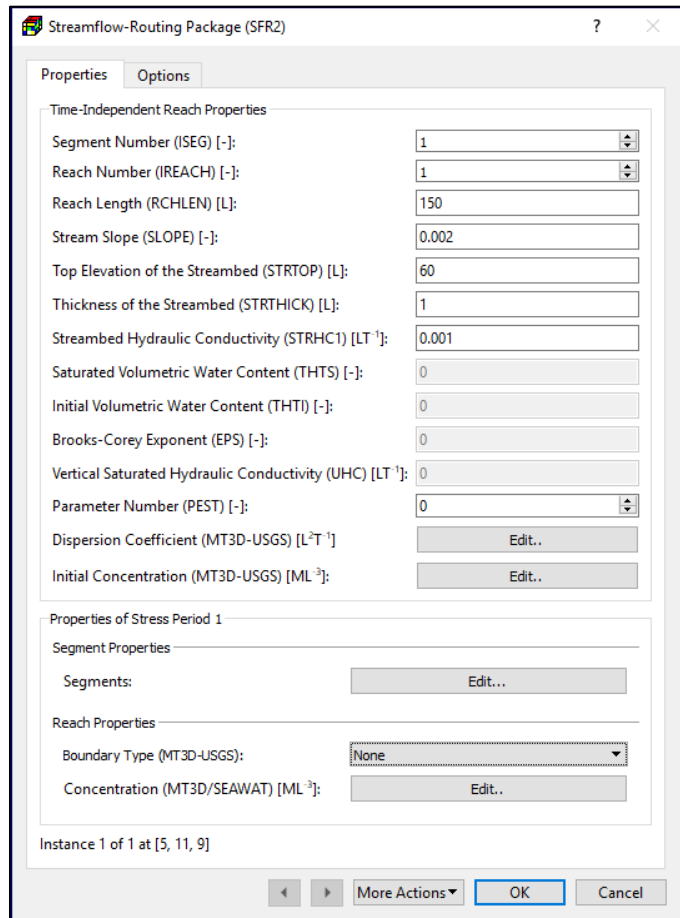

Figure 74. The Streamflow-Routing Package (SFR2) dialog box for specifying vertex properties
3. Polyline input method: Figure 74 shows the Properties tab of the Streamflow-Routing Package (SFR2) dialog box. The required data are organized in two groups as described below. Once the vertex data are specified, they may be interpolated and applied to model cells following the rules described in Section 3.3.2.2.